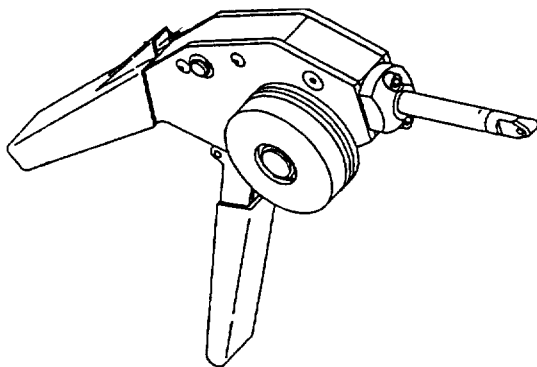

Figure 29. Safety Cable Application Tools
d. The nose can rotate to any desired position (Figure 29).
e. Insert the free end of the cable through the ferrule in the cartridge, and remove the ferrule by pulling the cable away from the end of the cartridge (Figure 29).
Do not release the free end of the cable until it has been inserted through the tool nose (Figure 29).